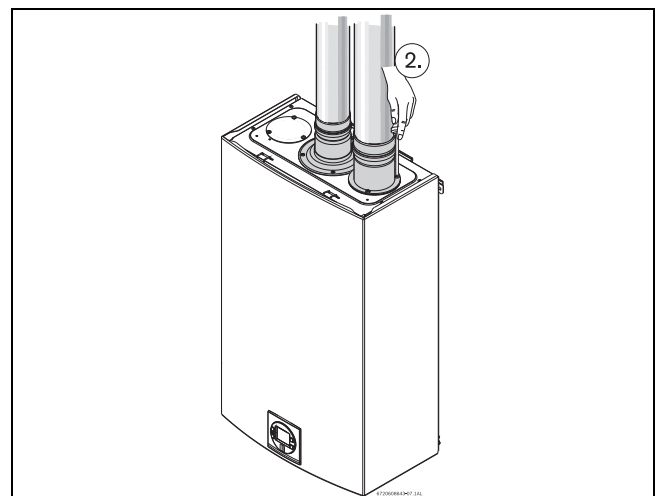

Fig. 21 Inlet connection
- ▶ Attach the combustion air inlet accessory to the top of the unit fig. 21 (position 2) using the 3 screws and gasket provided, and install 3" air intake pipe over the accessory.